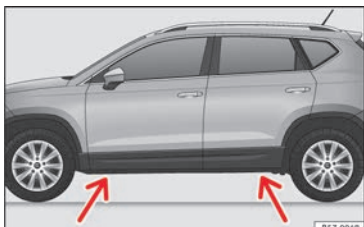

Fig. 73 Crossbar: marks.
- Find the support point on the strut (sunken area) closest to the wheel to be changed » » Fig. 73.